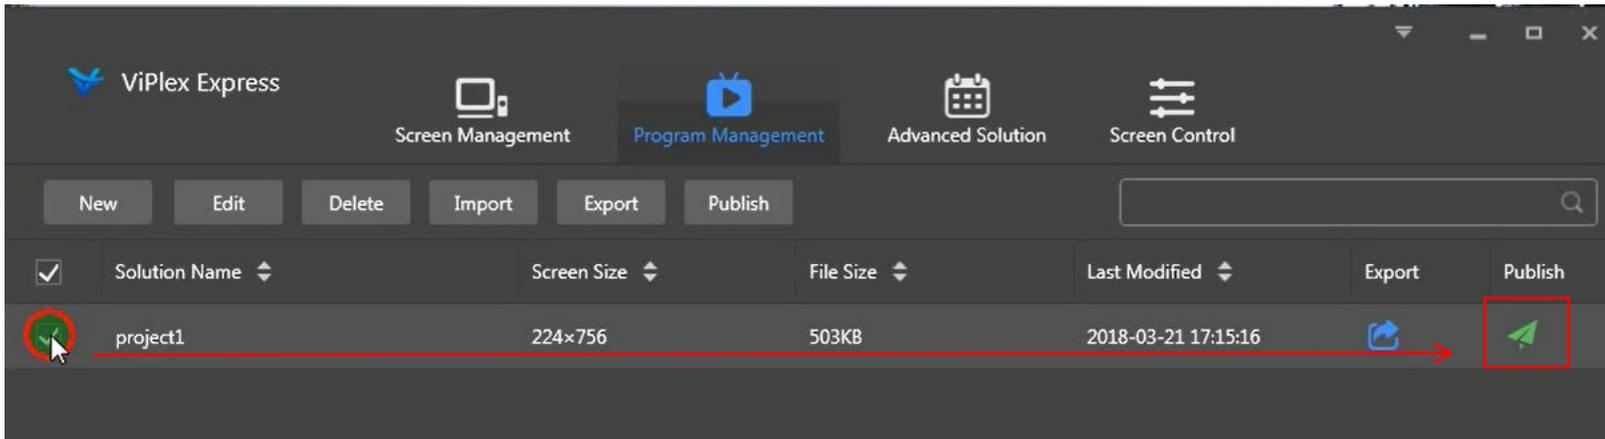

fig 7.9
h. Enter the interface shown in fig 7.9, click the new playlist created in last step and click  to publish.